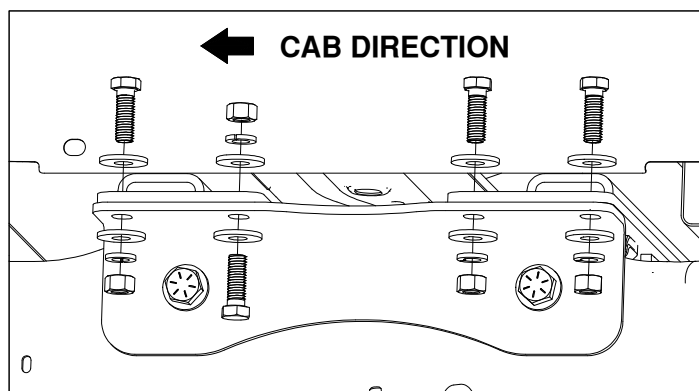

Figure D7: View looking into the driver side wheel well.
- 7. Install outside side plate hardware.** Inside each wheel well, place four 1/2" x 1-1/2" cap screws into the four holes that connect the cross members to the outside side plates, as shown in Figure D7. Due to the limited clearance under the bed stiffener, one of the cap screws will need to be installed from the bottom up. Loosely secure the cap screws with two 1/2" flat washers, a lock washer, and a nut. Repeat on the other side of the truck.